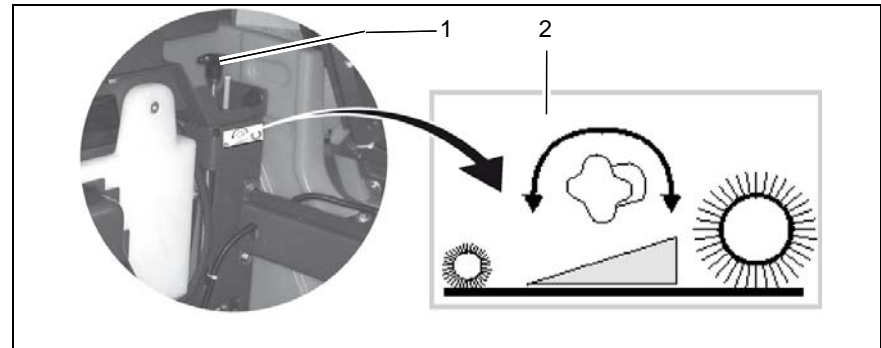

Fig.13
The sweeping track width can be adjusted at the star-shaped knob (Fig. 13/1) as follows:
- Turn star-shaped knob (Fig. 13/1) to the left = wider sweeping track
to the right = smaller sweeping track (Sweeper adjustment sticker (Fig. 13/2)